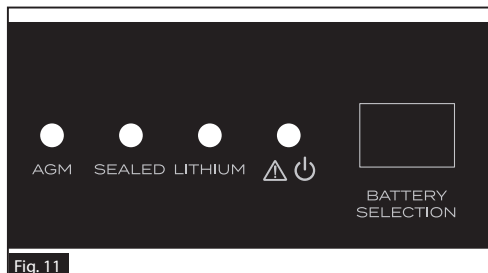

Fig. 11
- Press the BATTERY SELECTION button to select the correct battery type. (Figure 11)
- Verify that system is operational, e.g. the charge LED is blinking or solid green light. (Figure 11)